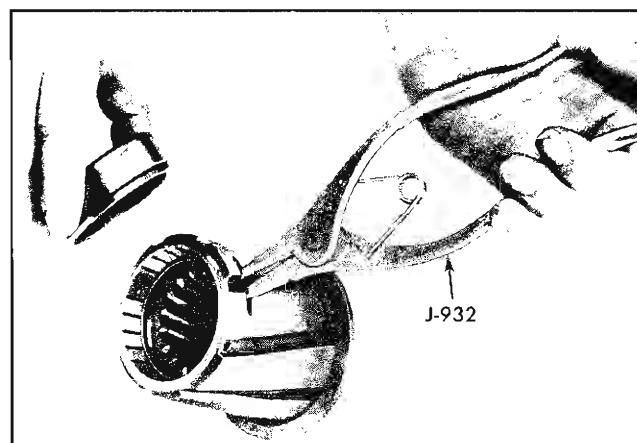

Fig. 7-30 Removing Synchronizer Ring
3. Using Tool J-932, expand retainer into counterbore in clutch sleeve. This raises retainer from groove in ring so ring may be easily slipped out (Fig. 7-30).